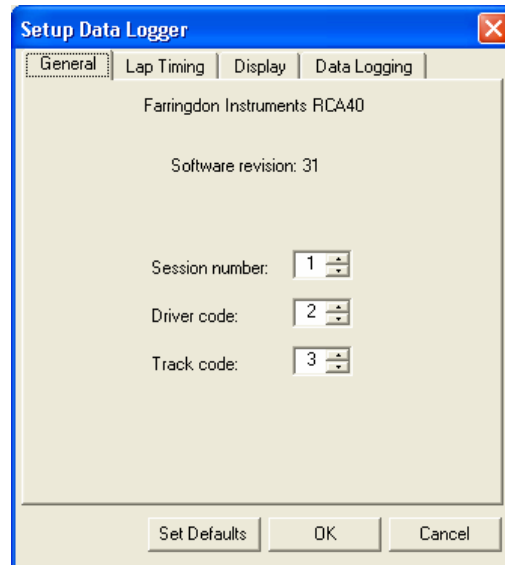

Figure 32 - Setup Data Logger Dialog (General Page)
2. Connect the data logger to the serial port of the host computer using the cable provided and click **OK**. The current configuration of the lap timer is transferred to the host computer and the Setup Data Logger Dialog (Figure 32) appears.
Click the **General** tab to display the General page (Figure 32) of the Setup Data Logger Dialog.